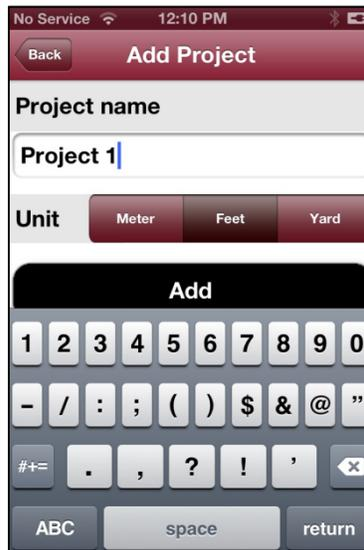

Figure 21
3. Tap in the empty field under "Project name" to make the cursor appear and bring up the keyboard (Figure 21).